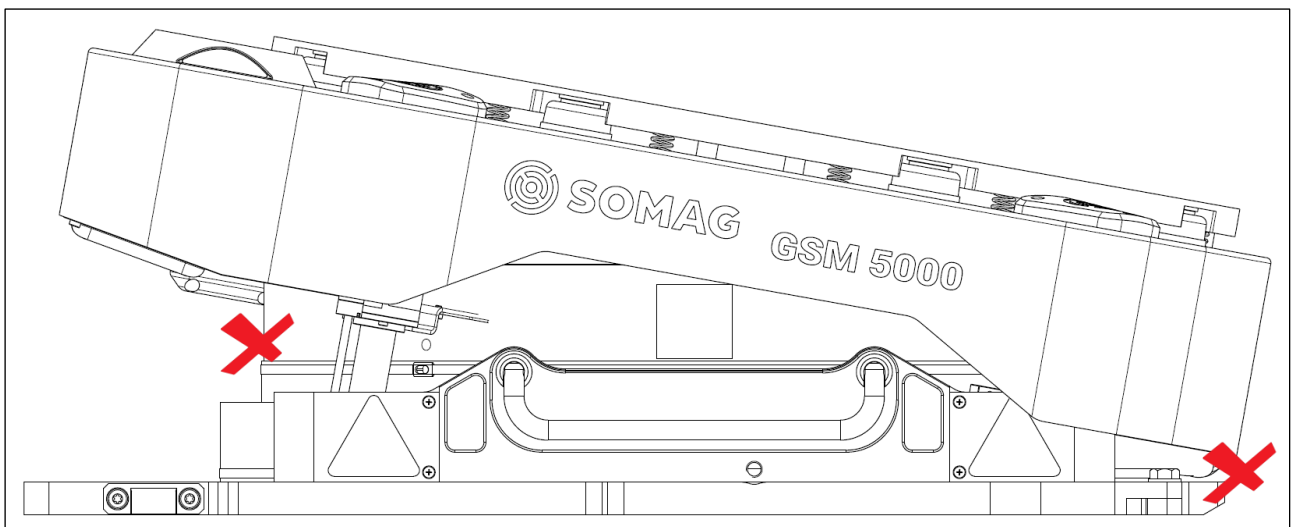
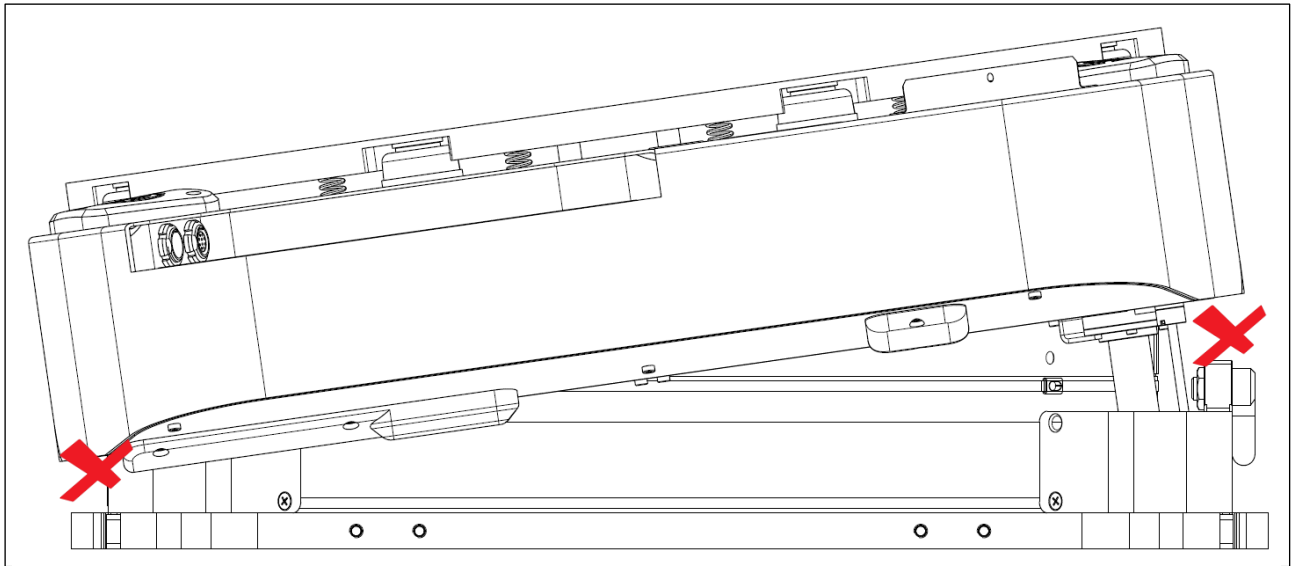

Figure 3: GSM 5000 cover (pitch)
Figure 5 GSM 5000 cover (roll)
- **DO NOT put anything near the areas marked by the red crosses in Figure 3 and Figure 5! Damage to the device and any nearby objects may result. Always keep the area around the Mount clear to ensure safe operation.**